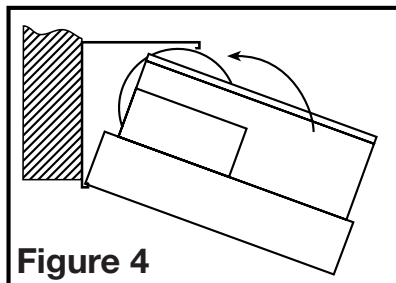

Figure 4
- Snap the fan body into the bracket (**Figure 4**). The fan can be snapped into position with the duct collar facing to the left or the right depending which is most convenient.